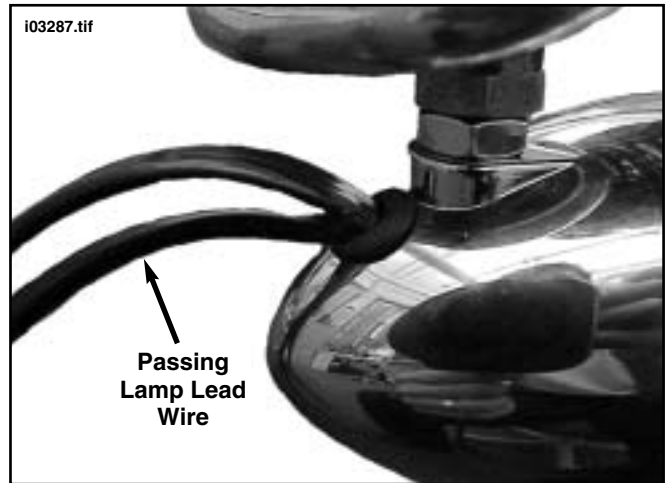

Figure 11. Route Passing Lamp Lead Wire
- See Figure 11. Route passing lamp lead wire through directional housing grommet.